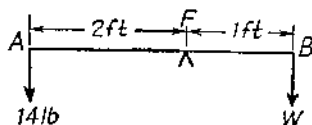

Fig. 65
(1) In fig. 65  $AB$  represents a rod, whose weight we can ignore, balancing about a pivot at  $F$ . Find the weight  $W$  and the force at the pivot.